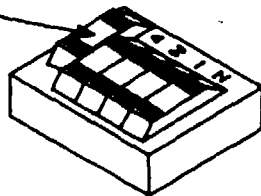
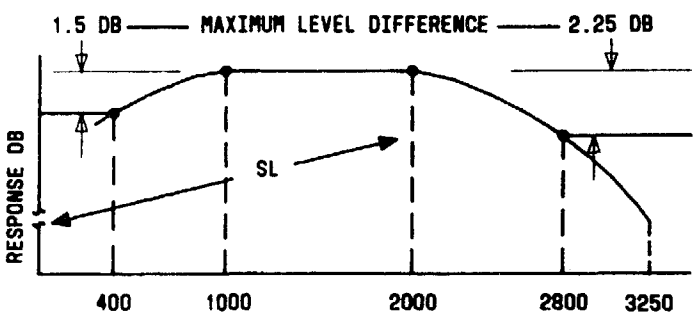

FIG. 4
FIG. 5 - 2-Wire Response
[21] Is difference between 400 Hz and 1000 Hz levels within limits per FIG. 5 (2-wire) or FIG. 6 (4-wire) [NOTE 2]
[22] Attempt to get difference between 400 Hz and 1000 Hz levels per FIG. 5 or 6 by adjusting SL on 4-wire units or S2 (SL) on 2-wire units [FIG. 4], while tester sends 400- and 1000-Hz tones as applicable as many times as necessary [NOTE 3]
[23] Can levels per FIG. 5 or 6 be obtained [NOTE 2]
- 2. FIG. 5 and 6 show objectives and not necessarily requirements. Response limits are determined by overall circuit
[26] Is difference in 2000 Hz and 2800 Hz levels within limits per FIG. 5 (2-wire) or FIG. 6 (4-wire) [NOTE 4]
[28] Start with trial BW and HT values of 4. Attempt to obtain levels per FIG. 5 or 6 by adjusting BW and HT per TABLE C, Page 7 while tester sends 2000- and 2800-Hz tones as applicable as many times as necessary
[30] Can levels per FIG. 5 or 6 be obtained [NOTE 4]
FIG. 5 and 6 show objectives and not requirements. Response limits are determined by overall circuit